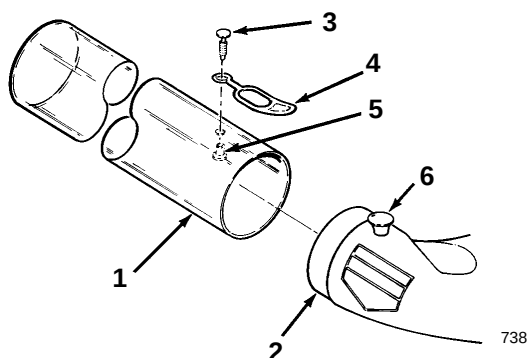

Figure 4
1. Secure the retainer to the duct with the barbed clip and spacer fastener (Fig. 4).
2. Slide the duct over the end of the chute, aligning the retainer with the knob on the chute. Pull the retainer over the knob, securing the duct and chute (Fig. 4).
1. Disconnect the retainer on the duct from the knob on the chute and pull the duct free from the chute and grass basket (Fig. 4).